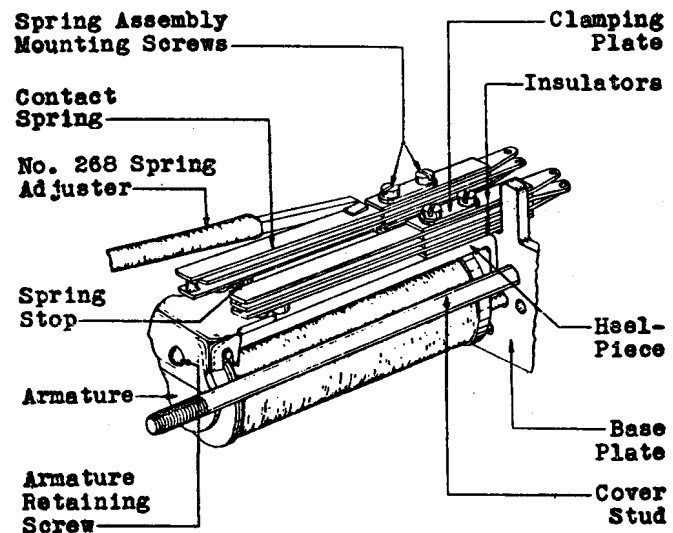

Fig. 6 - Method of Adjusting for Contact Pressure of All Relays Except 194- and 366-type Relays
(7) **All Relays Except 194- and 366-type Relays:** Adjust the spring as required with the No. 268 spring adjuster. Place the adjuster on the front end of the spring but in back of the contacts and armature studs and slide it back to a point about 1/4" from where the spring leaves the spring assembly as shown in Fig. 6. Adjust the spring at this point with a slight twist upward or downward as required, exercising care not to disturb adjacent springs.